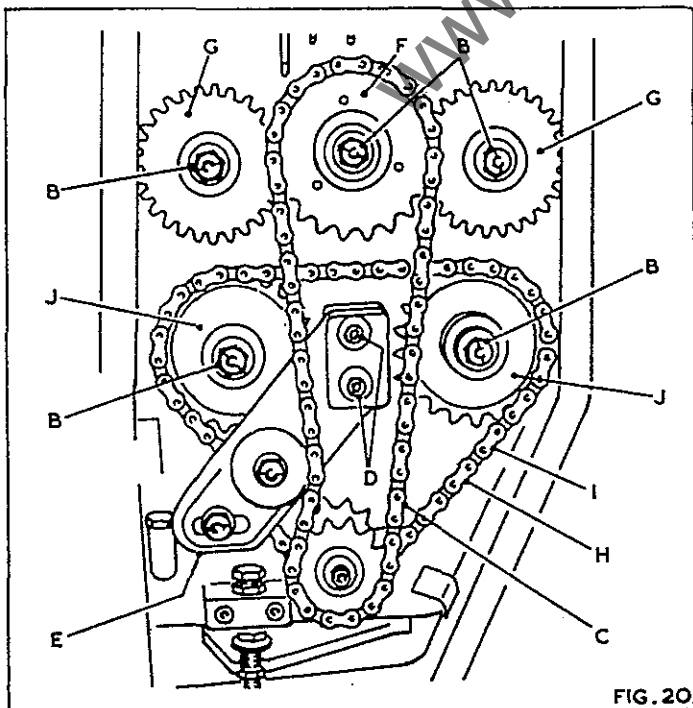

FIG. 20.
1. Remove feed works drive cover at rear of machine then loosen aerotight nuts and washers "B" in Fig. 20 and remove.